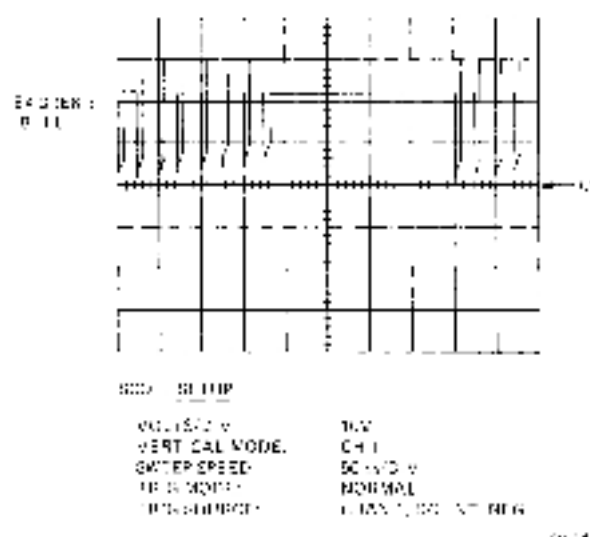

Figure 6-3 Bell Test Waveform
3. Connect channel 1 of scope to E4-1/E6-3 (-BF-1.1.1). Set up scope according to Figure 6-3.
5. Check the bell circuit by pressing **CTRL/G**. The waveform displayed on the scope should be similar to Figure 6-3. The microprocessor and print controller generate a pattern of 8 chopping pulses every 400 μ s, for a tone of 2.5 KHz.